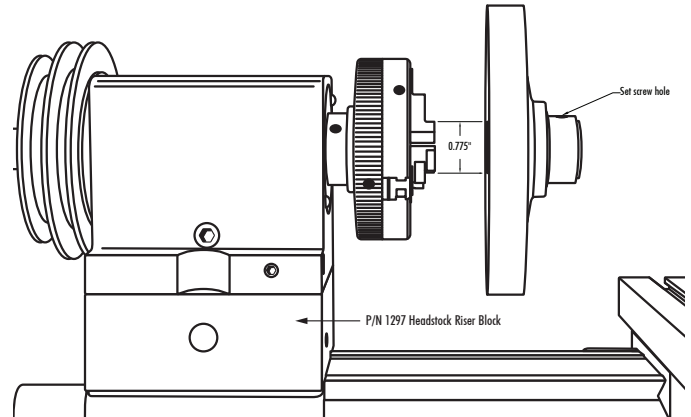

FIGURE 7b—Mount the handwheel by the .775" (19.69 mm) I.D. bore to the chuck.
1. Mount the handwheel (P/N 31010) on your lathe with a 3-jaw chuck, holding it on the inside by the .775" (19.69 mm) bore (see Figure 7b), and turn it down so it clears the gear. Make sure to remove the 10-32 set screw in the shaft before turning the part (see Figure 7c). You may need to grind the set screw down so it can clear the gears as well.